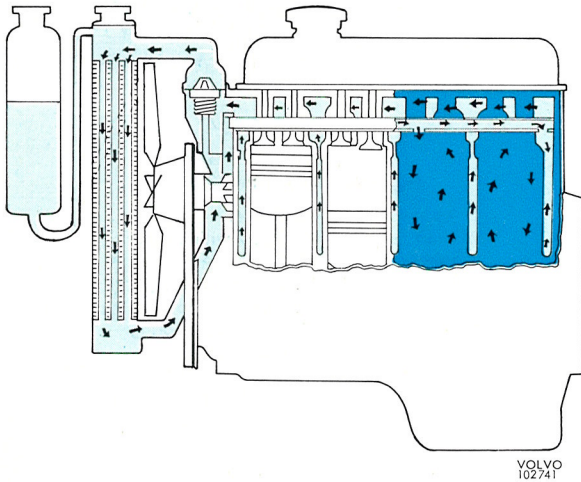
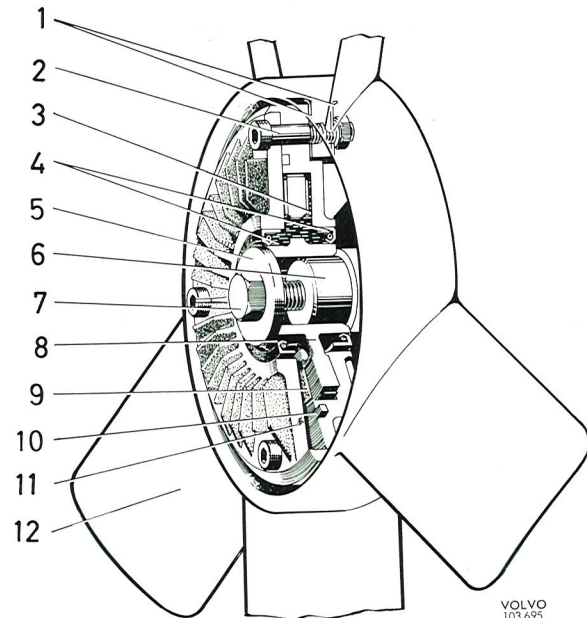

Fig. 2-123. Sealing cooling system
Fig. 2-124. Viscous fan
The engine is water-cooled and the cooling system is of the sealed type, see Fig. 2-123. The B 20 A engine is fitted with a fixed fan. A speed-regulated fan, a so-called viscous type (see Fig. 2-124), is fitted on the B 20 B unit. Its function is to ensure that the fan blades do not exceed a certain speed even if the engine speed is exceeded. See Fig. 2-130. The five fan blades are mounted asymmetrically to keep down the noise level. The fan coupling consists of the casing (11, Fig. 2-124) in which the plastic fan blades (12) are secured with the bolt (2). The casing (11) has two halves which, however, cannot be separated for repairs, the fan coupling then being replaced complete. The hub (8) has a light fit on the water pump flange (6) and is locked by means of the center bolt (7). The hub is provided with a slip disc of friction material (9) surrounded by oil. During idling and at low speeds, the